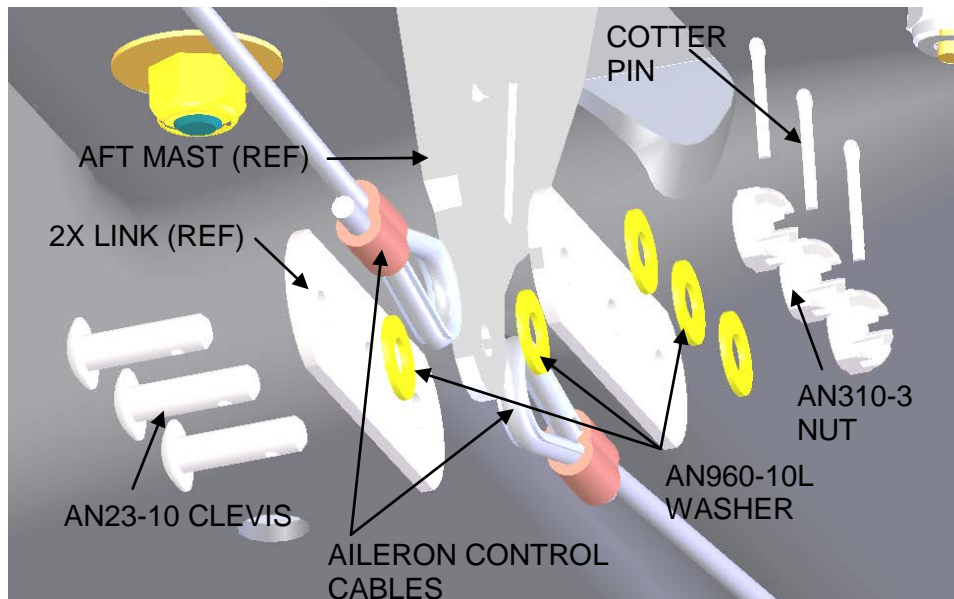

Figure 3 – Link Hardware
- aa. Reattach the elevator pushrod and cables to the forward and aft control sticks, as removed, using one (1) each MS20392-3C19, AN960-416L, and AN380-2-2 at each location.
- dd. Reattach the linkage to the aft mast, as removed, using the following hardware: Original AN23-10 or -11, AN960-10L (3X), AN310-3, and AN380-2-2. Refer to Figure 3.